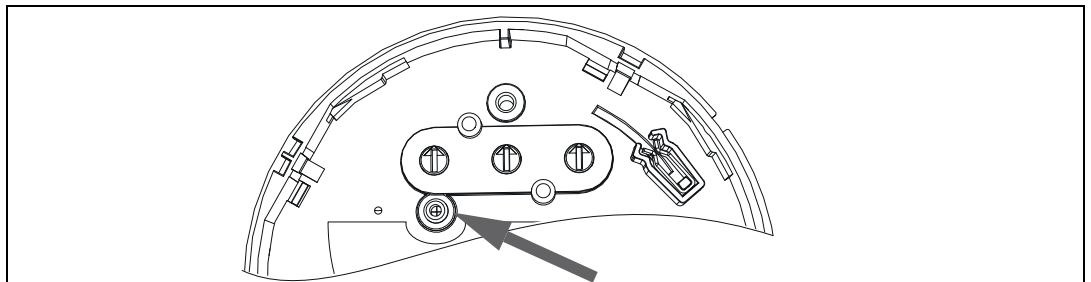

Figure 7.1
- To clean the chamber, use a can of clean compressed air. Place the tube or needle valve through the valve in the bottom of the detector and blow it off with a maximum pressure of 6 bar (see *Figure 7.1*).